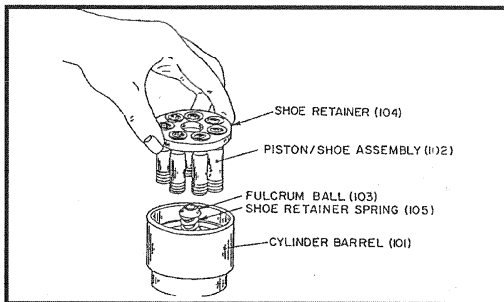

Figure 7 ROTATING GROUP DISASSEMBLY (5V-12015-L).
Mark (number) each pump piston shoe assembly (102) and its respective bore in cylinder barrel (101) and shoe retainer (104). See Figure 7. Lift out shoe retainer (104) with pistons (102) and remove fulcrum ball (103) and shoe retainer spring (105).
See Figure 7. Place the cylinder barrel (101), wear surface down, on a clean cloth. Place the shoe retainer spring (105) in the center of the barrel with the fulcrum ball (103) on top of it. Insert the (numbered on disassembly) pistons (102) into their corresponding (numbered) holes of the shoe retainer (104). As a unit, fit